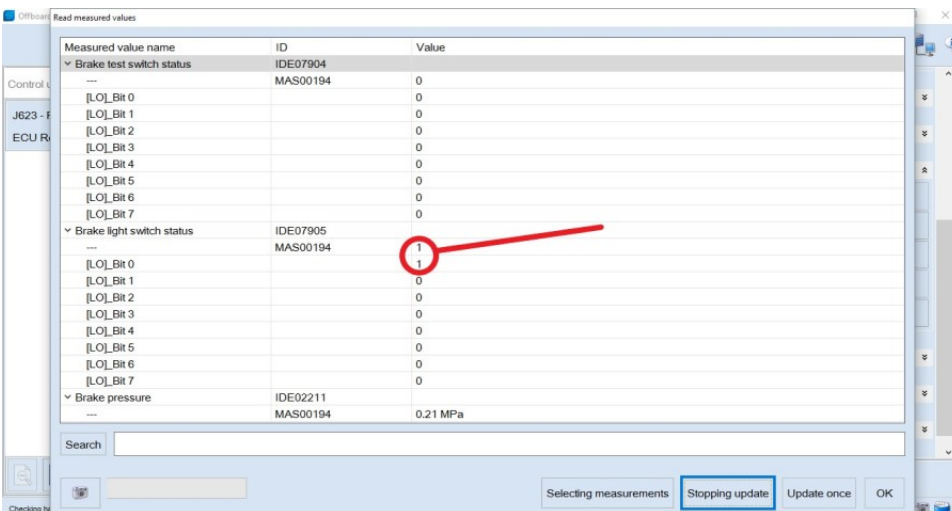

Figure 6
- Gently press the brake pedal (by hand) until the brake light status of IDE 07905 changes from 0 to 1 (also refer to Figure 6)